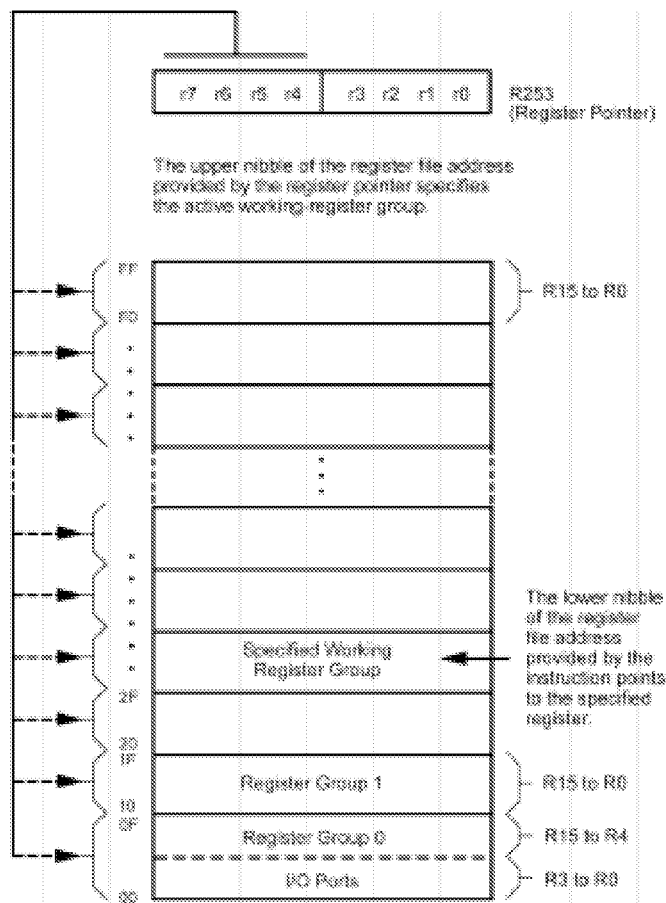

Figure 16. Register Pointer—Detail
**Register File.** A total of 256 byte registers are implemented in the Z8 core. Address 00H, 01H and FOH are reserved. The register file consists of two I/O Port registers, 236 general-purpose registers and 15 control and status registers (Figure 15). The instructions access registers directly or indirectly with an 8-bit address field, thereby allowing short 4-bit register addressing using the Register Pointer. In the 4-bit mode, the register file is divided into sixteen working-register groups, each occupying 16 continuous locations. The Register Pointer addresses the starting location of the active working-register group (Figure 16).